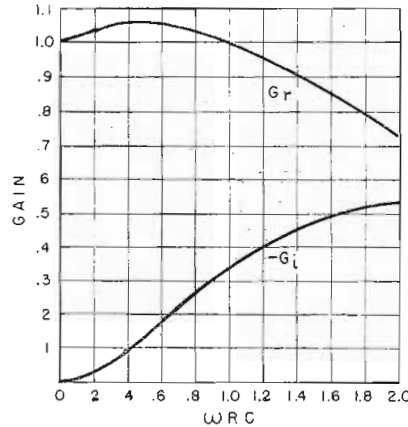

Fig. 5—Real and imaginary parts,  $G_r$  and  $G_i$  of network 2 plotted vs.  $\omega RC$
Fig. 5 shows the real and imaginary parts,  $G_r$  and  $G_i$ , of Equation (1), the voltage gain of the network shown in Fig. 2, plotted as a function of  $\omega RC$ .